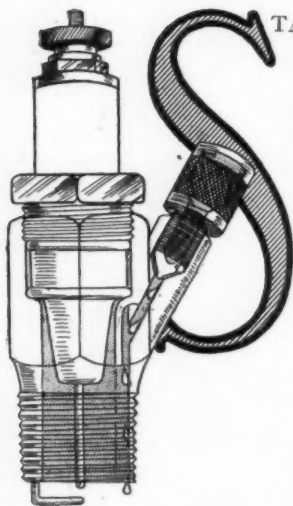

Fig. 1—New Champion priming spark-plug
**S**TARTER plugs which combine the office of sparking with that of a priming cup have become fairly common during the last year, a number of these devices having been announced. It stands to reason that the principal problem in the construction of such a plug is to obtain absolute tightness of the various parts, so that the provision of a priming cup does not bring with it a leak of compression when the engine is in operation. In the Champion priming plug, Fig. 1, this end has been realized by using for the priming cup a brass plug bored as shown, through which the gasoline injected for starting enters; out of the central bore of the cup, the fuel runs down toward the wall of the bored shell in which the cup is fitted. The upper portion of the brass cup is screw-threaded to fit into the steel extension of the shell, while the lower end is formed as a plain needle which, when screwed down upon its seat, makes a close fit with it. As the engine heats up, the brass cup expands to a greater extent than the steel bore in which it is in position, a tight fit being obtained in this way. The ghost view, Fig. 1, illustrates the simplicity of the construction of this plug, which is composed of very few parts; the latter are manufactured in a standard way and therefore interchangeable. The Champion Spark Plug Company, 132 Upton avenue, Toledo, O., is the maker of this plug. This spark-plug is manufactured in the regular sizes, and may be used without in any way altering the gas and wiring connections to the various cylinders, as